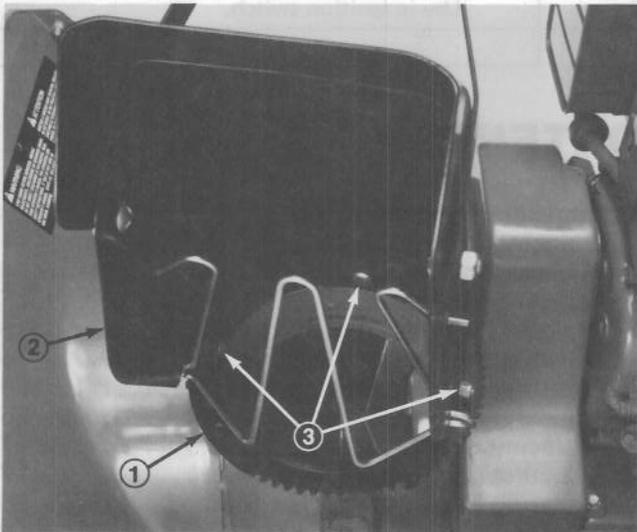

Figure 2
1. Rotate retaining ring so teeth and mounting tabs are in correct position (Fig. 2).
2. Set discharge chute on retaining ring (Fig. 2). Secure back of chute to center tab with carriage bolt, flat washer and locknut (Fig. 2); but do not tighten locknut.
3. Secure chute to the other tabs with two carriage bolts, flat washers and locknuts (Fig. 2).